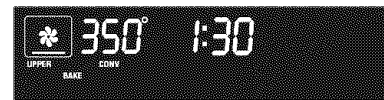
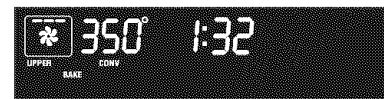
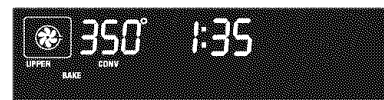

Figure 4
Figure 5
Figure 6
3. Press . "UPPER", "BAKE" and "CONV" stop flashing and remain in the display. The oven icon will appear and the rotating fan will start running in the display. The bake (Figure 4), broil (Figure 5) and convection (Figure 6) elements icon will show intermittently in the display indicating which element is on to help the oven reaching the desired temperature. A beep will sound once the oven temperature reaches 325°F (adjusted temperature).